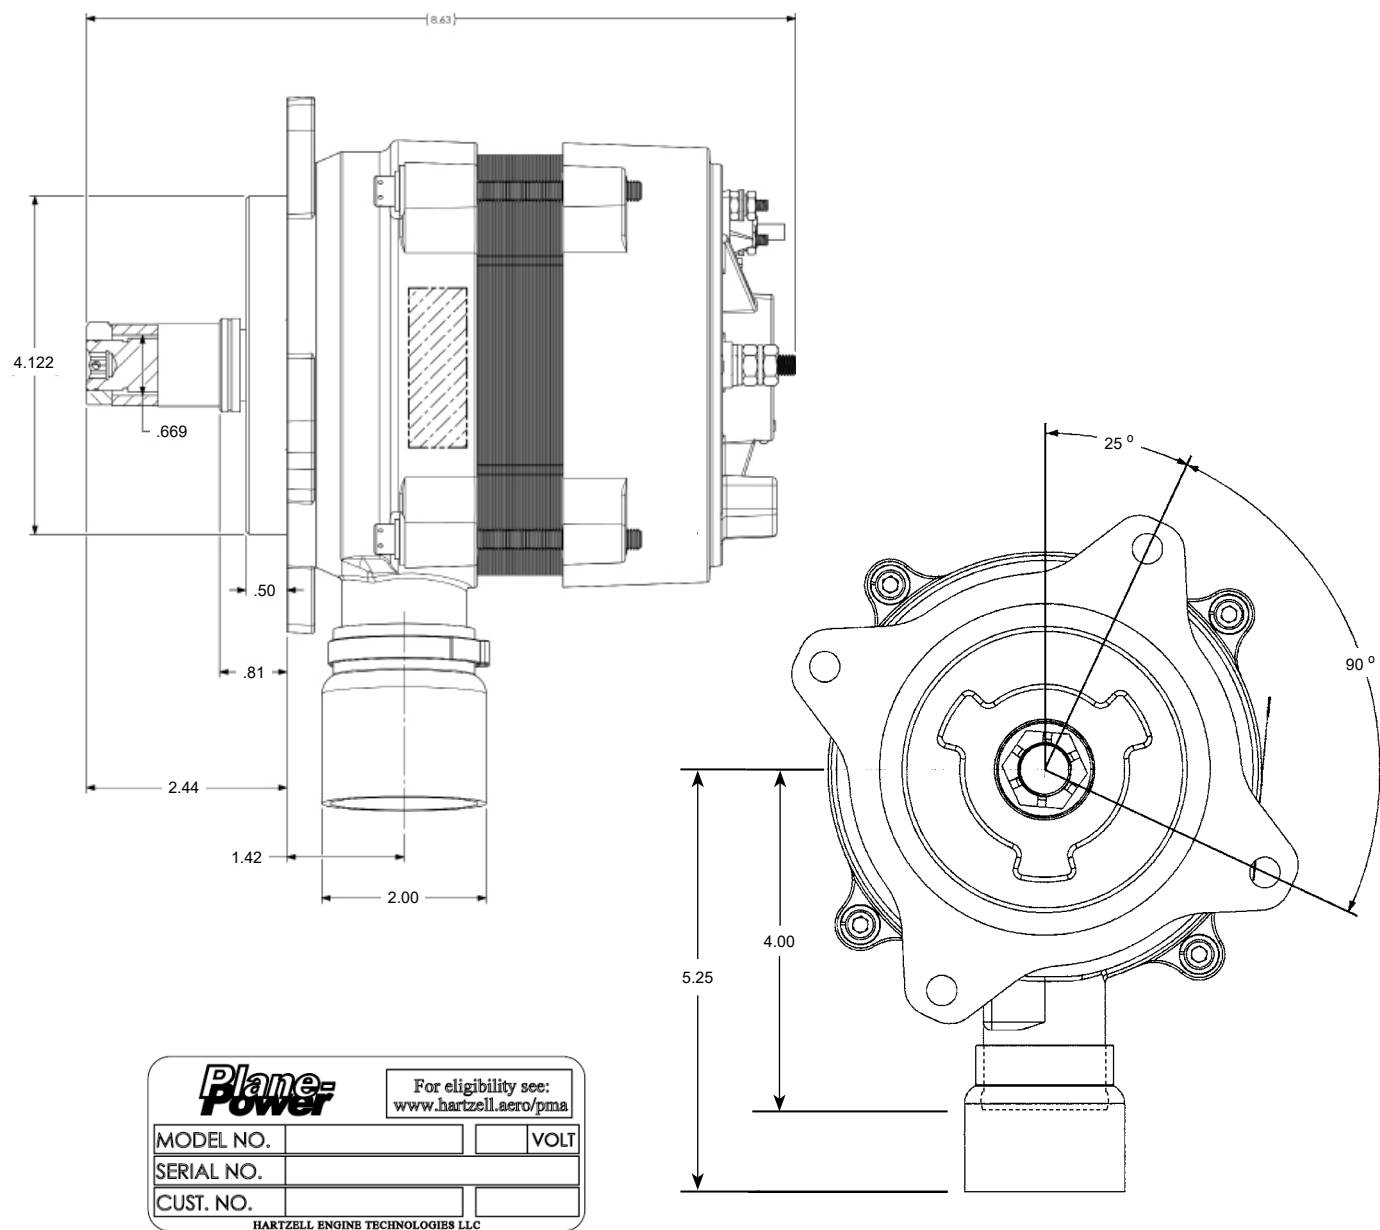

Figure 2.3 ES-10024/ALV-9610 Dimensions
- (1) The basic dimensions of each alternator are shown in Fig. 2.3 thru 2.22.
- (2) The dimensions of the ALV-9610 alternator are the same for the ES-10024 alternator with the exception of the flex cooling duct.